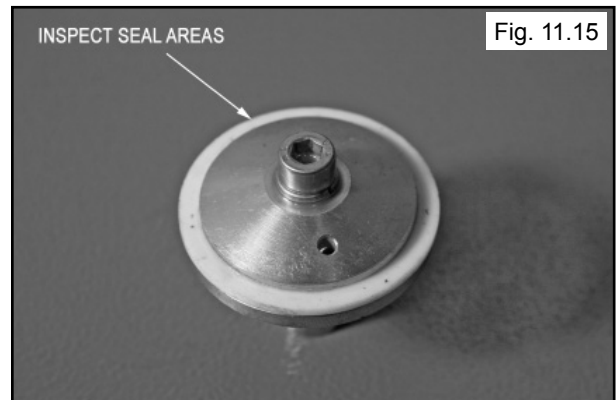

Fig. 11.15
4. Inspect the white seal on the Valve for damage or cracks. Replace if damaged. (See Fig. 11.15)